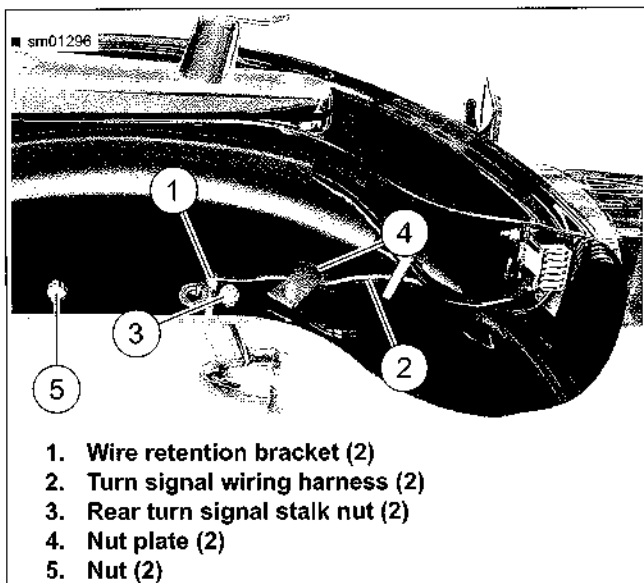

Figure 6-69. Turn Signal Wire Routing: XL 883L/R
6. See Figure 6-69. Disengage turn signal wiring harnesses from wire retention brackets (1).